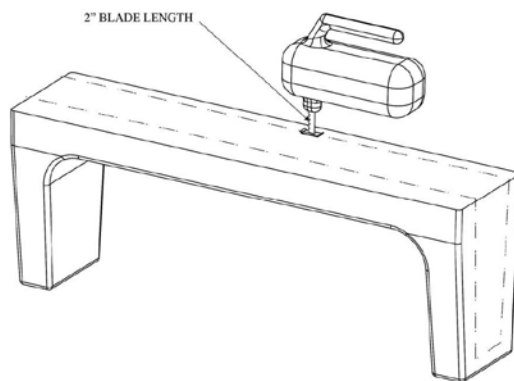

FIGURE 5
- Cut the CleanCut Ultra-Low to fit the cut-out tub opening using a jigsaw (Figure 5). Fasten Velcro stripping on both sides of the jigsaw to prevent making any unwanted marks on the CleanCut Ultra-Low. It is important that a 2" blade is used to cut out the CleanCut Ultra-Low so as to prevent accidentally cutting through the top of the CleanCut Ultra-Low. Snap off any excess length on the stock jigsaw blade beyond 2".